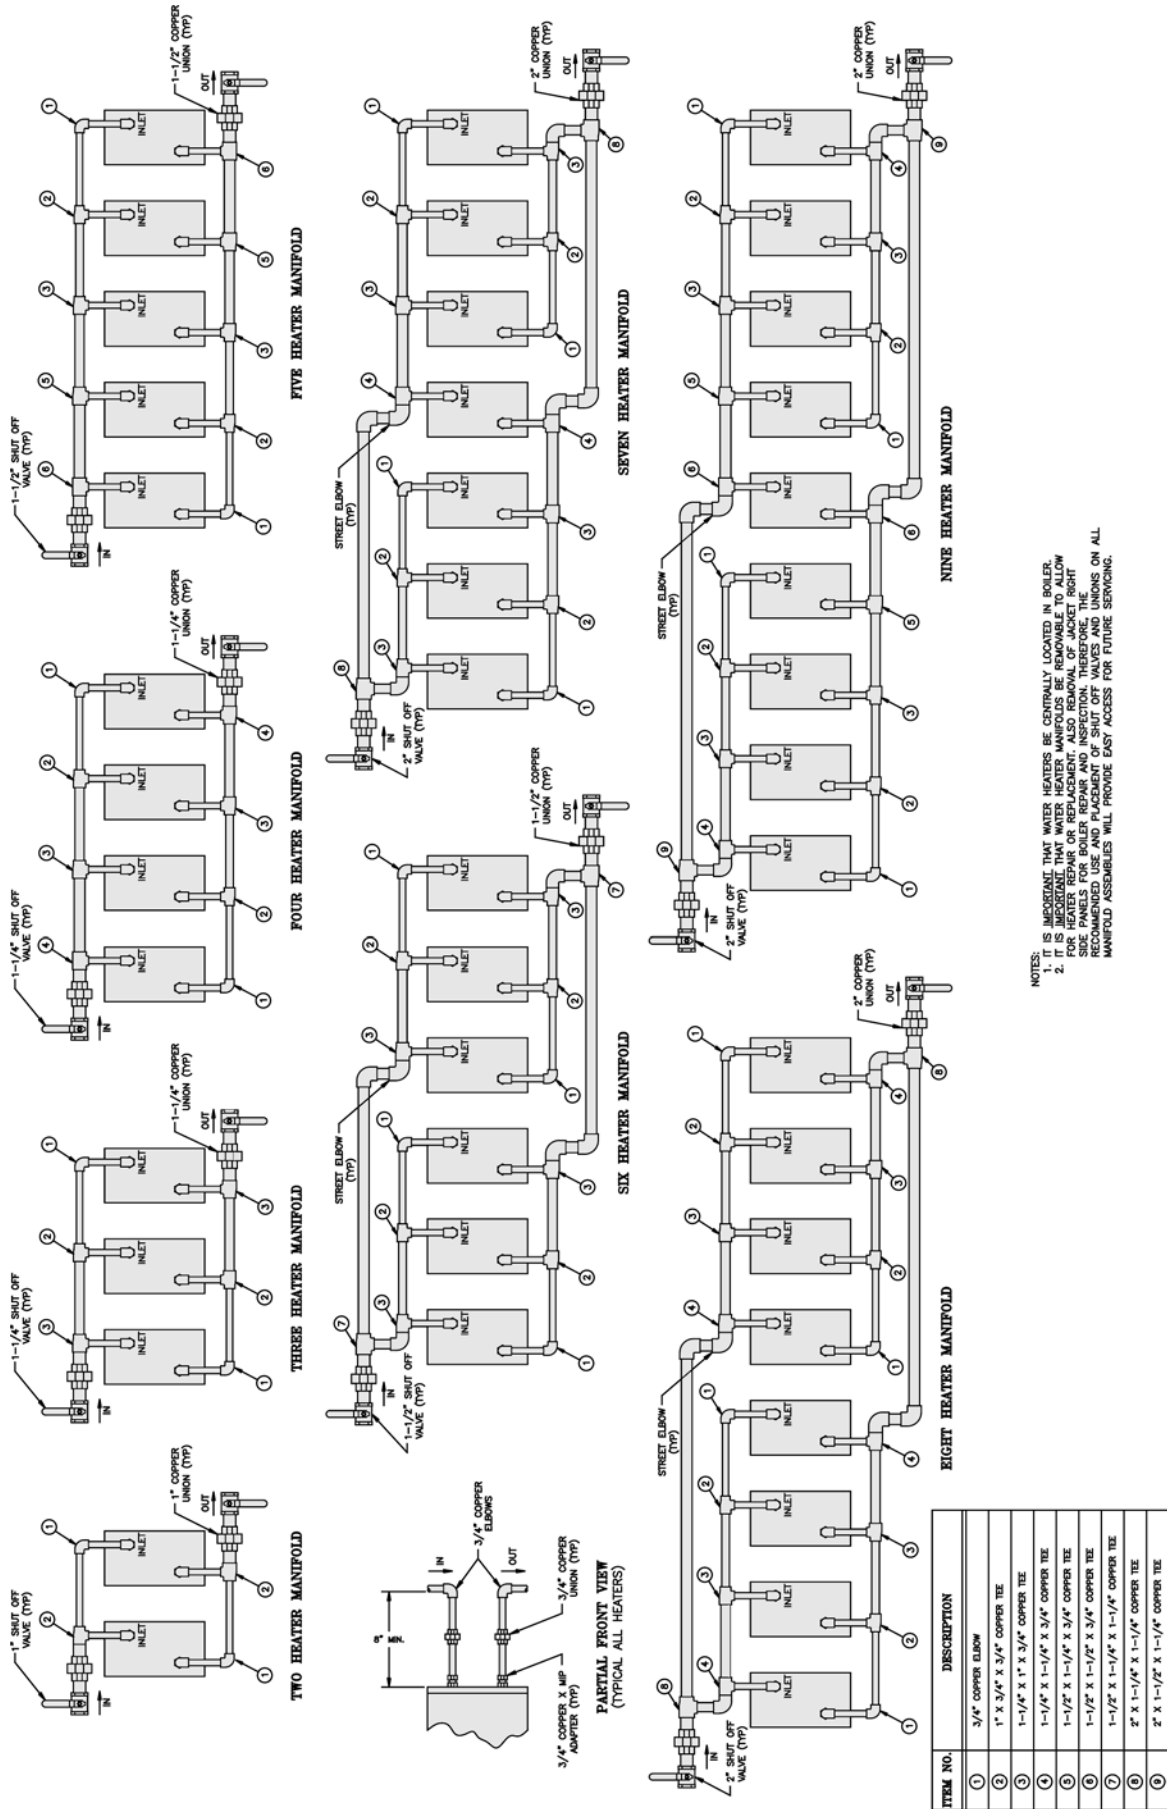

Figure 28: Minimum Piping Recommendations for V11 Series Tankless Heater Manifolds
7. For boilers with tankless heaters, install the tankless heater manifolds according to Figure 28.